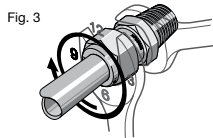

Fig. 3
3. While holding the fitting body steady, tighten the nut one and one-quarter turns to the 9 o'clock position. *Fig. 3.*